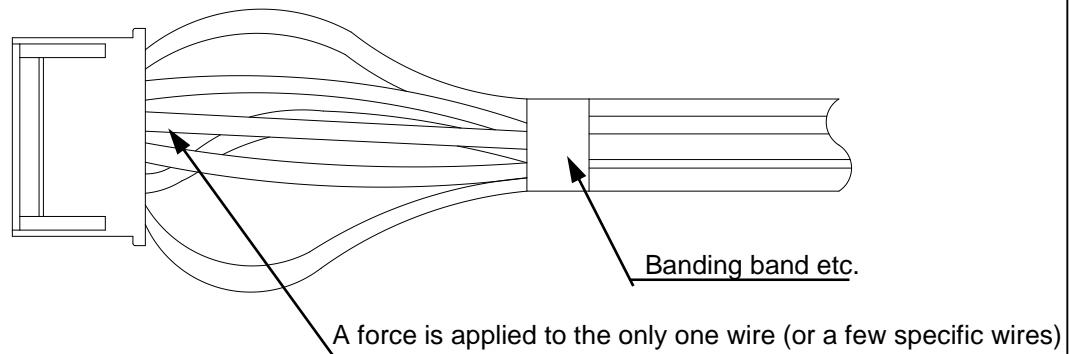

Fig.7-2 A harness is bundled improperly
- ② Do not apply force to the only one wire (or a few specific wires) in the harness. **(Fig.7-2)**